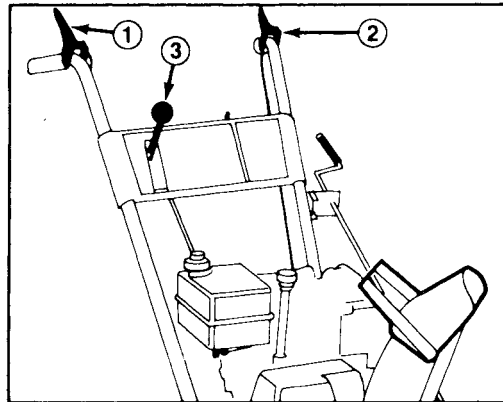

Figure 4
4. Move speed selector into first gear (Fig. 4).